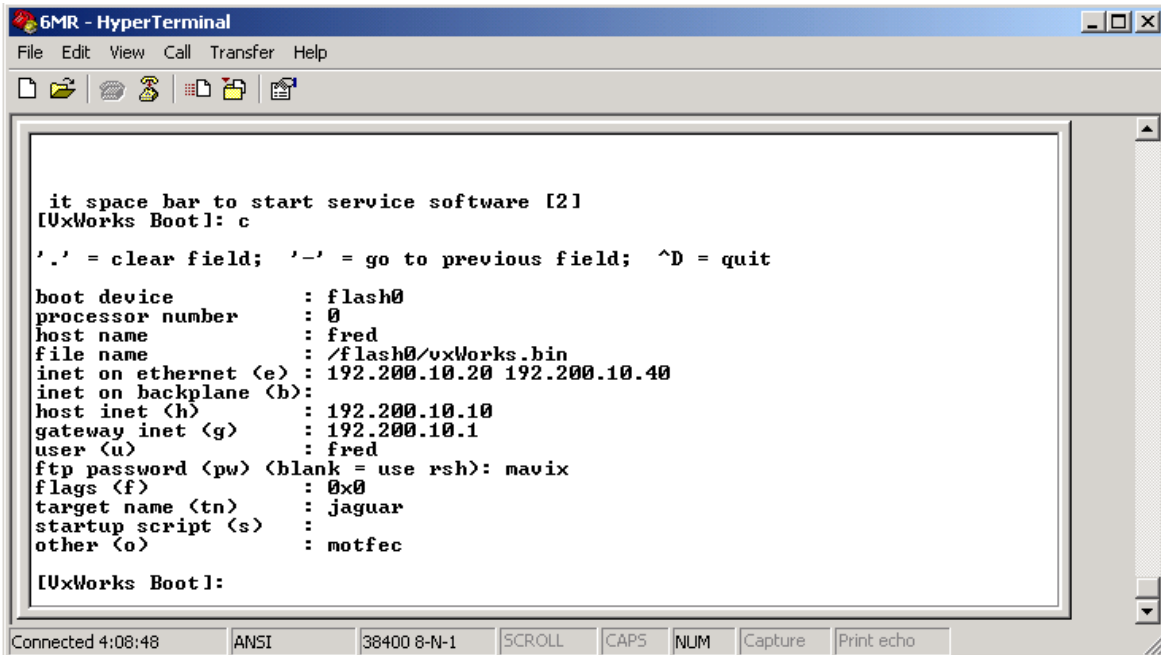

Figure 4-4
5. Wait until "[VxWorks Boot]:" prompt will appear after a few seconds (see Figure 4-4).
Boot flags (f) parameters defined as following (See Figure 4-4):